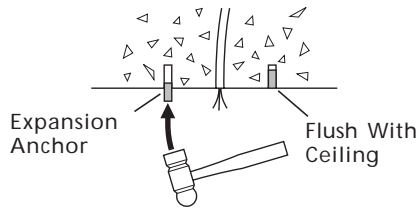

Figure 2e - Driving Expansion Anchors into Holes
3. Drive the expansion anchors into the holes until the ends of the anchors are flush with the ceiling. See Figure 2e.